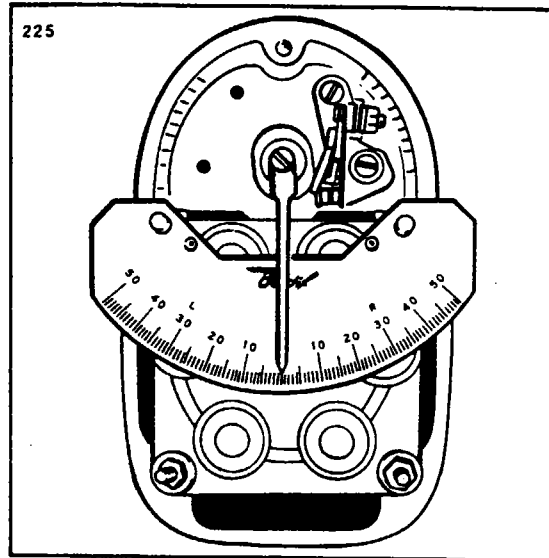

Figure 8-12. Timing Kit Installed
4. Install the 11-8693 Timing Plate Assembly and the 11-8149 Pointer Assembly of the 11-8150 Scintilla Timing Kit to breaker compartment of magneto. (Refer to Figure 8-12.) Align pointer assembly with the 0° mark on timing plate. Loosen adjusting knob of 11-8465 Rotor Holding Tool and turn rotating magnet in normal direction of rotation until pointer indexes with the respective E gap mark ($15^\circ \pm 2^\circ$). Tighten adjusting knob of 11-8465 Tool and remove the 11-8149 Pointer Assembly from magneto. Using a timing light, adjust main contact points to just open. This adjustment shall be made by rotating cam, in opposite direction of rotation, a few degrees beyond point where contacts close. Then rotate cam in normal direction of rotation until contacts just open. While holding cam in this exact position, push cam on magnet shaft as far as possible with the fingers. Extreme care must be exercised in this operation. If cam adjustment is changed in the slightest degree, the timing of the magneto will be thrown off. Do not drive cam on shaft with a mallet or other instrument. Tighten the securing screw thereby drawing the cam down, evenly and tightly. Torque non-self locking screw from 16 to 20 inch-pounds. Refer to the latest revision of Lycoming Service Instruction No. 1400 for information regarding replacement of cam retaining screw. Loosen the 11-8465 Rotor Holding Tool adjusting knob and return rotating magnet to neutral position. Reinstall the 11-8149 Pointer Assembly over 0° mark on timing plate. Rotate magnet shaft in normal direction of rotation and check for opening of main contact points at E gap setting ($15^\circ \pm 2^\circ$).